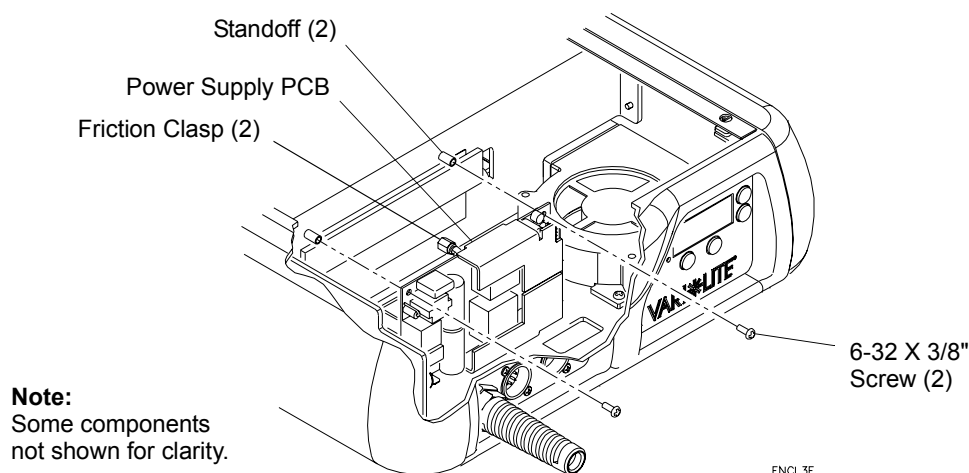

Figure 2-24: Power Supply Replacement
- Step 4. At power supply, remove two 6-32 X 3/8" PPZ screws securing power supply PCB to standoffs (**Figure 2-24**).